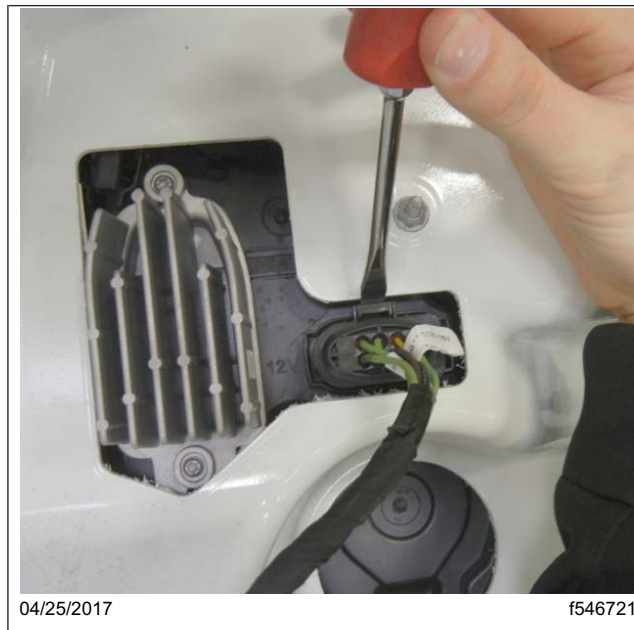

Fig. 2, Pressing Down on the Locking Tab
- 3.1 Press down on the locking tab with a screwdriver. See Fig. 2.